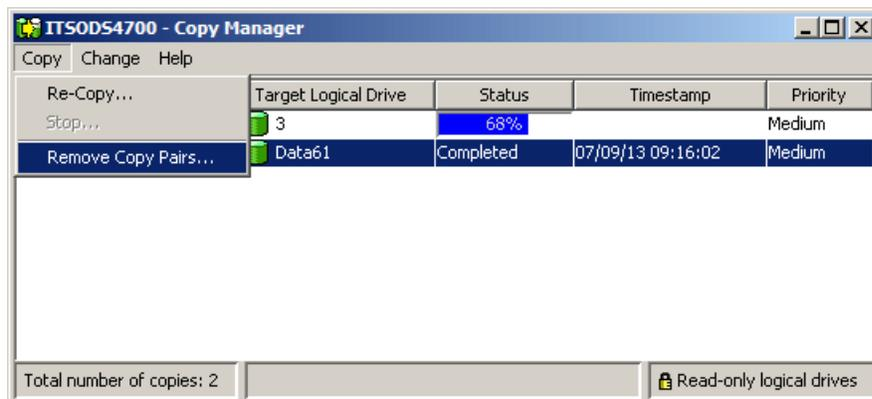

Figure 9-22 Copy Manager: Remove Copy Pairs menu
3. Select either the **Copy** → **Remove Copy Pairs** pull-down menu option or **Remove Copy Pairs** from the right-mouse pop-up menu (Figure 9-22).